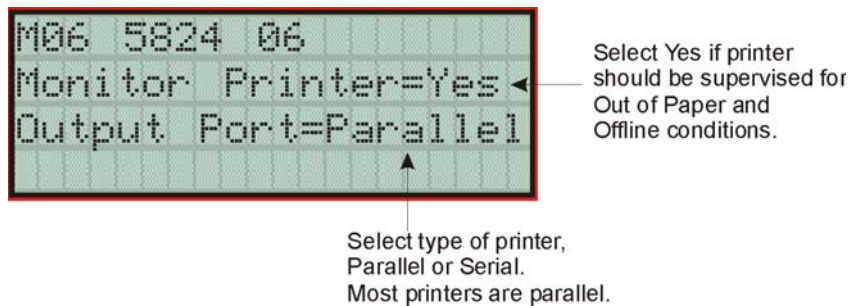

Figure 4-22 Selecting Printer and Output Port Options
5. Press ENTER to bypass the next two screens. A screen similar to the one shown in Figure 4-22 will display.